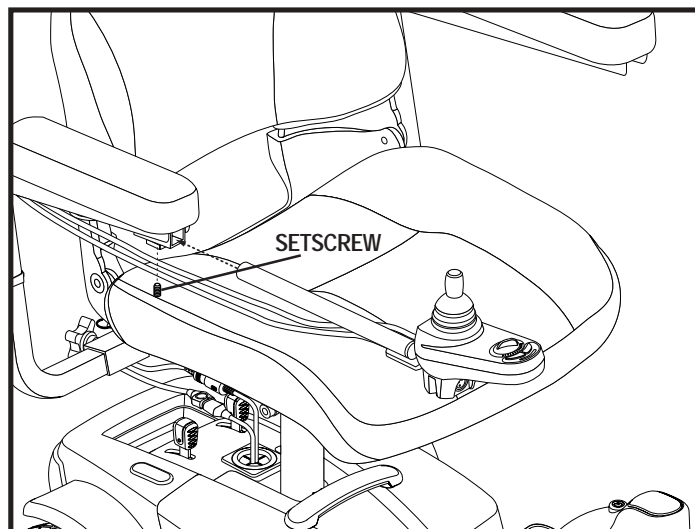

Figure 20. Controller Position
4. Flip up the armrest and loosen the setscrew. See figure 20.